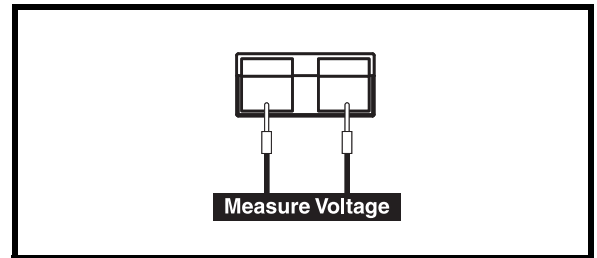

Figure 6. Connector 1c
6. Measure voltage across pin 1 and pin 2 on connector 1c and connector 2c. See figures 6 and 7.